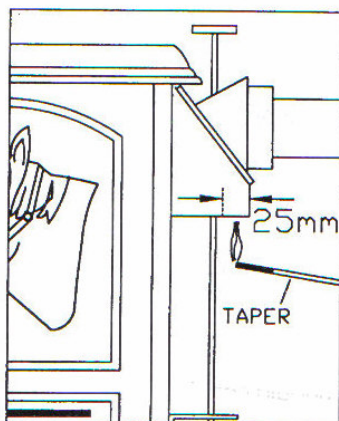

Fig.33
17. Check that the stove is not spilling flue gases through the draught hood. See fig.33.
1. Replace the wicks in the burner rings as per fig. 33. Ensure that the cut-outs in the wicks line up with the fuel ports between the central reservoir and inner ring and between the inner and outer rings. With the wicks in place, replace the inner ring insert ensuring the legs of the insert do not obstruct the fuel ports.